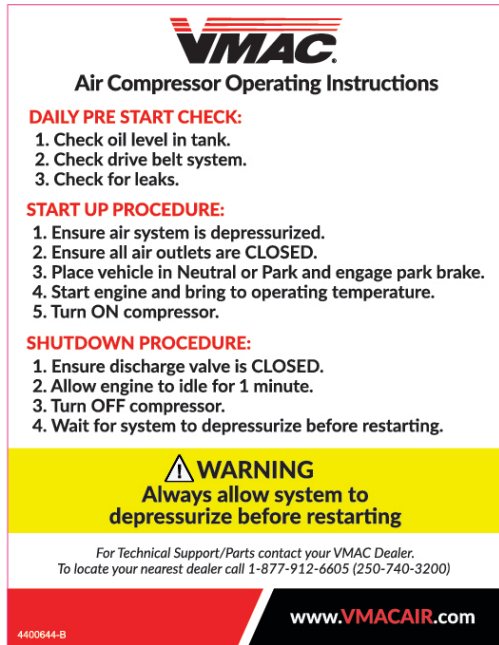

Figure 2 — Operating Instruction label
- As part of the installation process, ensure that the safety and operational instruction decal is affixed in an obvious location so that it can be seen by vehicle operators. A good spot for this is usually on the inside of the door or on the panel underneath the steering wheel (Figure 2).